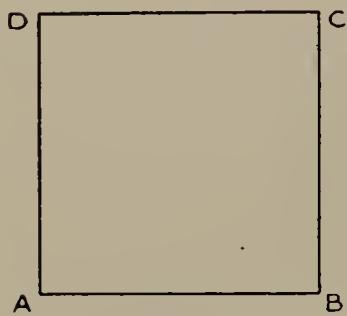

FIG. 123.
• (a) Place sheet of paper down on drawing board. Put the glass cube down on sheet of paper, and trace its boundaries lightly with a pencil, lettering as shown in Fig. 123.